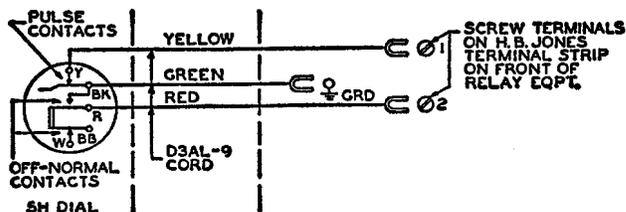

Fig. 1 — 5H Dial with D3AL Cord
3.02 Connect the 5H dial and D3AL-9 cord to the signaling equipment as shown in Fig. 1.
4.07 This test checks that the oscillator control circuit causes the dial to be connected to the oscillator circuit when dialing begins, and to be disconnected from the oscillator circuit after the complete code has been dialed. (See SD-69168-01, Fig. 1.)